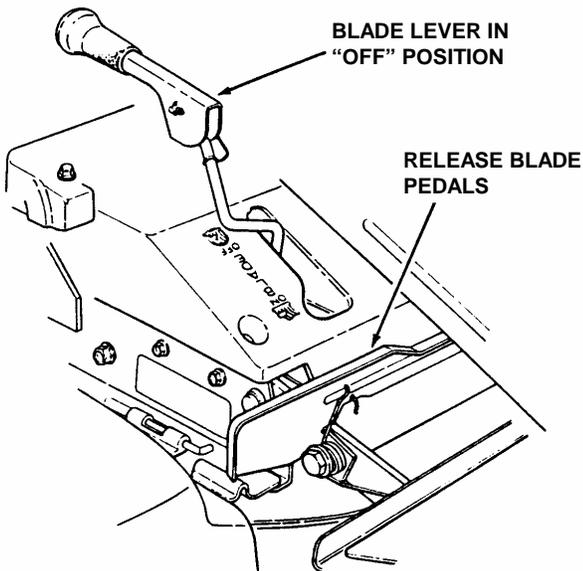
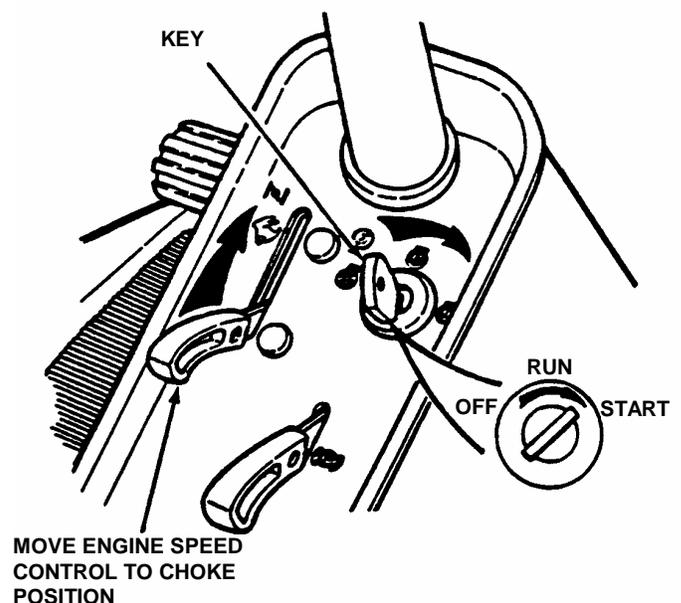
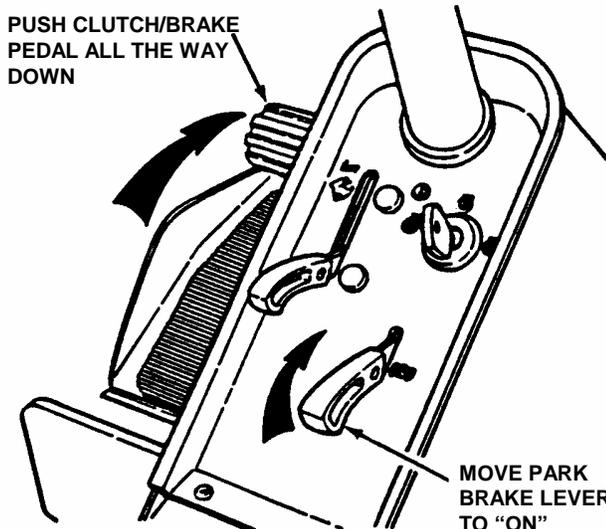

FIGURE 2.4
FIGURE 2.7
FIGURE 2.8
2. Make certain the Blade Lever is in the "OFF" position. See Figure 2.4.
5. Move engine speed control to the choke position to start a cold engine. See Figure 2.7.
6. Turn key to the "START" position until engine starts. See Figure 2.7. **NOTE:** If after 5 seconds of cranking the engine and it does not start, release the key, make sure the Clutch/Brake Pedal is fully depressed and attempt starting again after waiting for approximately 20 seconds.
**IMPORTANT:** When the ignition key is turned to "RUN", and the recoil handle is pulled, the engine will turn over, but will not start unless the Clutch/Brake Pedal is pressed all the way down with Parking Brake engaged (See Figure 2.8) and the Blade Lever is in the "Off" position (See Figure 2.4). Start engine as follows:
1. Move transmission shift lever to (N) Neutral position. DO NOT start engine with transmission shift lever in a drive position.
3. Press Clutch/Brake Pedal all the way down, lift Parking Brake Lever and release the Clutch/Brake Pedal to set Parking Brake. See Figure 2.8.